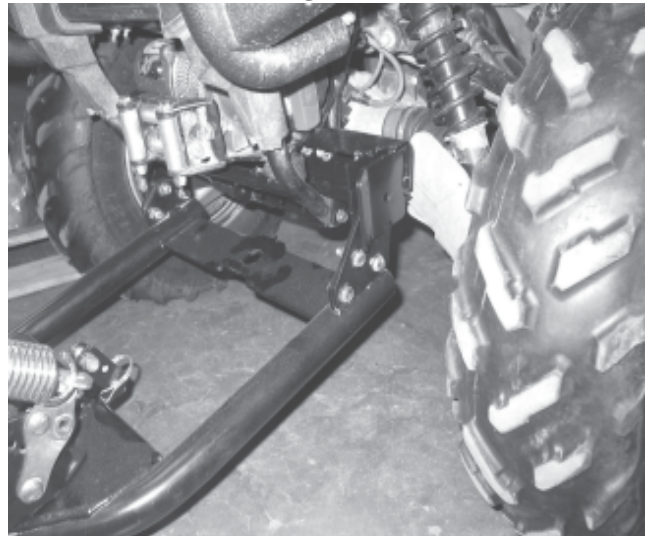

Figure 8
13. To attach the plow to the ATV align plow push tubes with plow mount tabs. Lift plow push tubes and set the pucks into the cradles of the plow mount (Figure 8 and 9). Push pin (C1) through the mount and push tube assembly and lock the pin's retaining clip onto the tabs on the rear of the plow mounting plate.